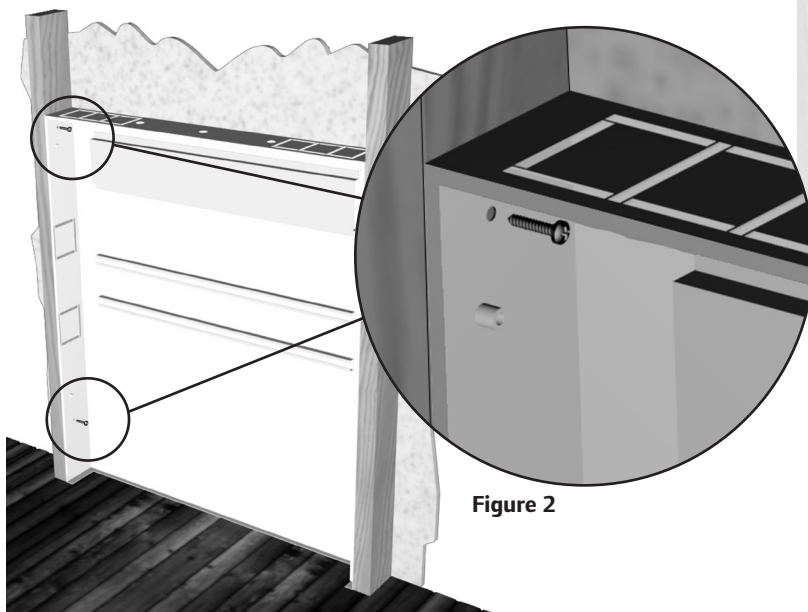

Figure 2
3. Using wood screws, attach the manifold cabinet to the stud framing. (See **Figure 2**.)